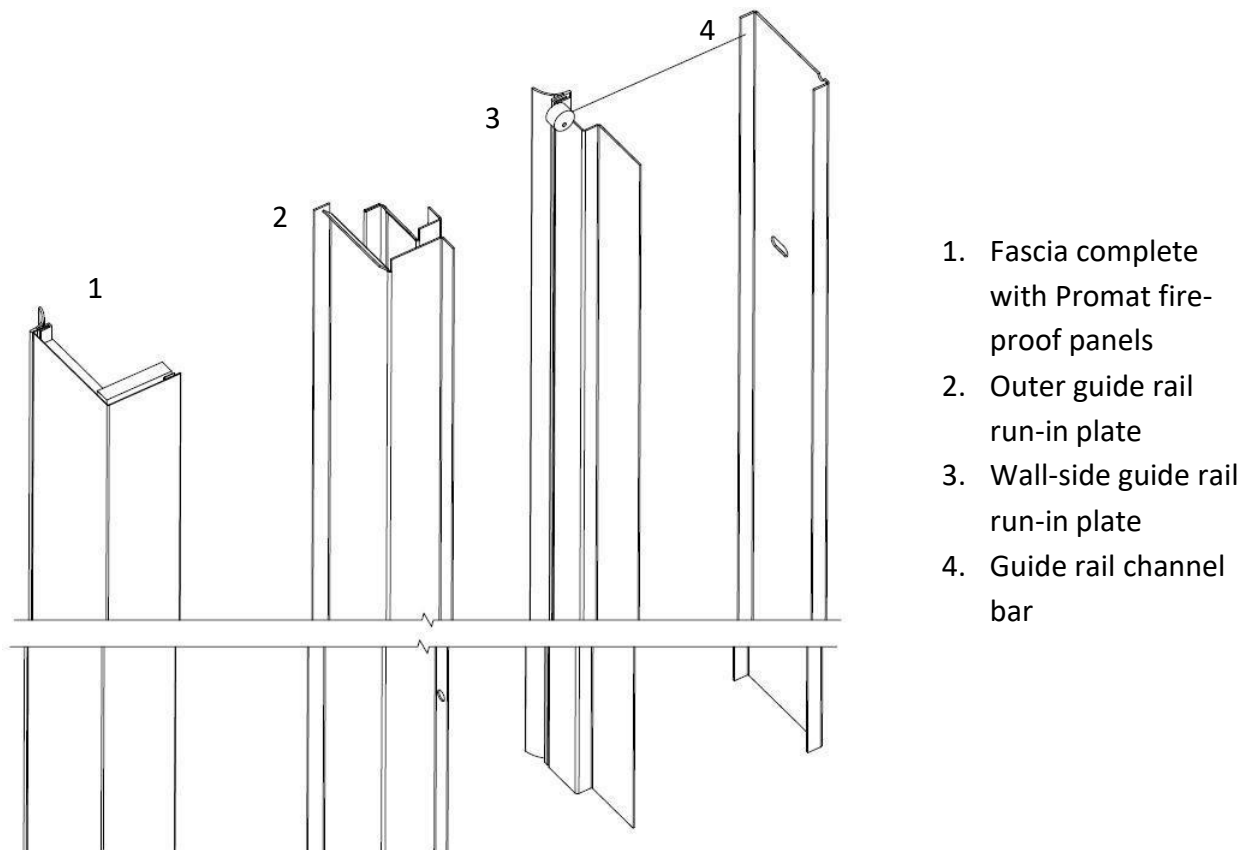
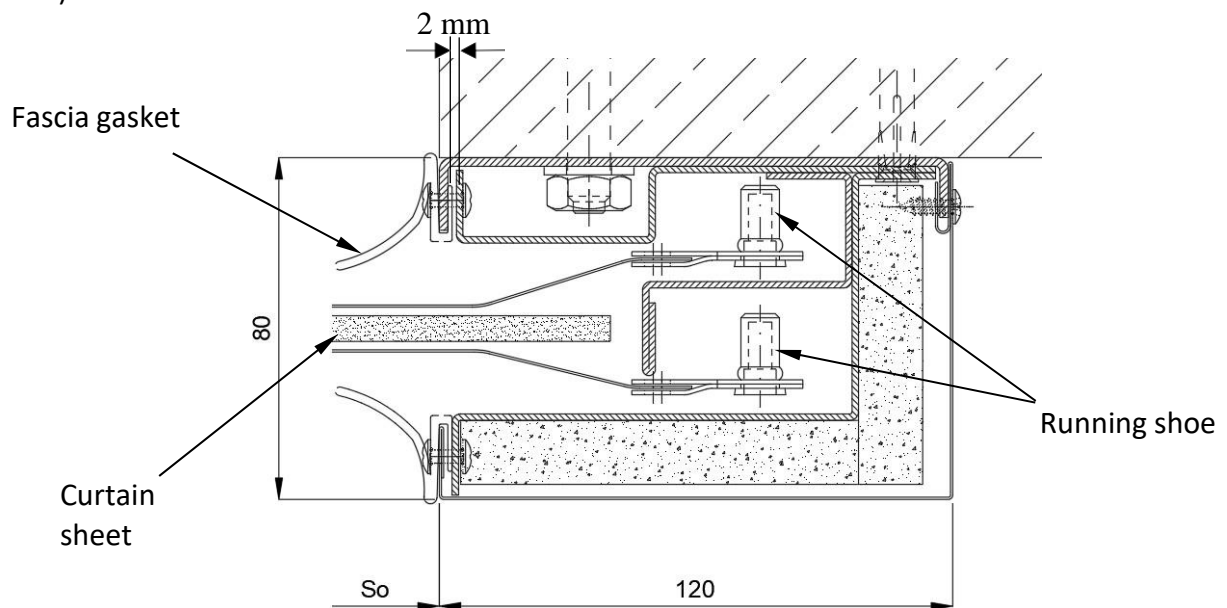

Fig. 12. Installation of the Marc-Ok plus guide rail
Fig. 13. Cross-sectional view of the guide rail engaged by the curtain
12) Use the channel bar holes to drill $\varnothing 8$ holes for the door frame anchors (Fig. 12).
13) Assemble the internal parts (2) and (3) of the guide rail (Fig. 13) in the channel bar (4) and secure them with the door frame anchors. Leave 2 mm of play for the fascia gaskets (Fig. 12).
- 14) With the guide rail internal parts installed, install the Promat fire-proof panels and the outer fascia (1) (Fig. 13) with the 4.2x13 mm self-drilling screws.